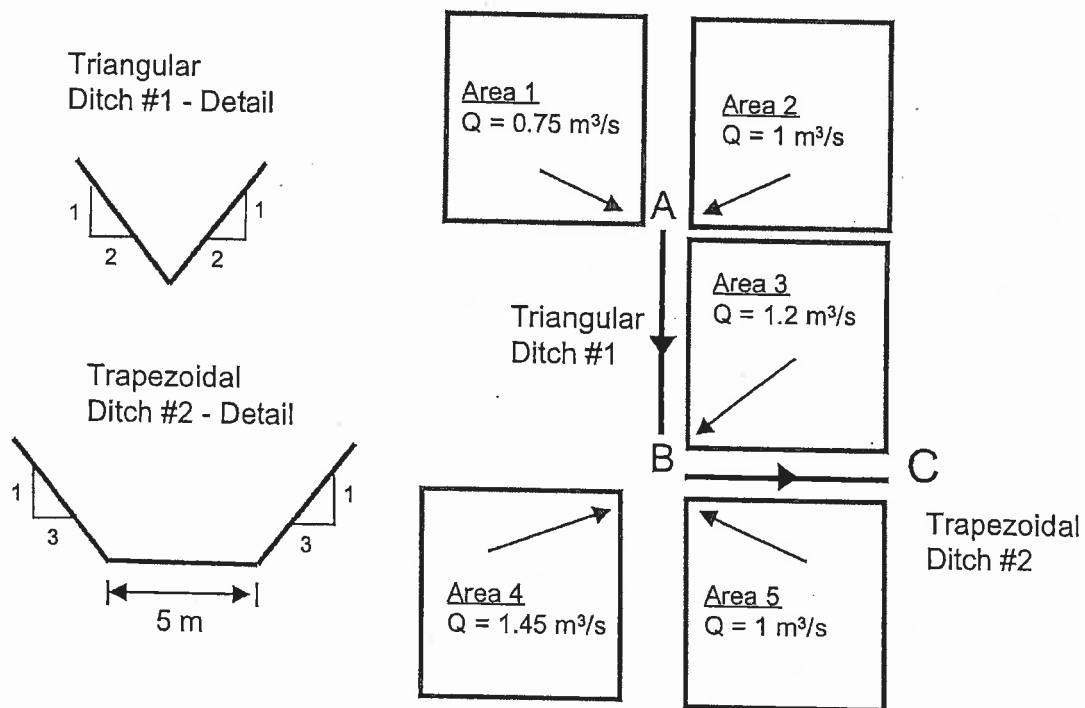

Figure 4. Drainage areas and design details of Ditches #1 and #2.
5. The sub-division indicated in Figure 4 is comprised of five drainage areas that drain to two ditches. The runoff from each drainage area is indicated in Figure 4. Ditch #1 conveys the runoff from Areas 1 and 2, and Ditch #2 conveys the runoff from Areas 1 to 5. Ditch #1 (from points A to B) will have a triangular cross section with 2:1 side slopes, a length of 500 m, a longitudinal slope of 0.5%, and will be covered with grass (Manning's $n=0.045$). Ditch #2 (from points B to C) will have a trapezoidal cross section with 3:1 side slopes, a 5 m wide bottom, a length of 400 m, a longitudinal slope of 0.3%, and will be covered with grass (Manning's $n=0.045$). Determine the design height of Ditches #1 and #2 to convey the flows from the five drainage areas.